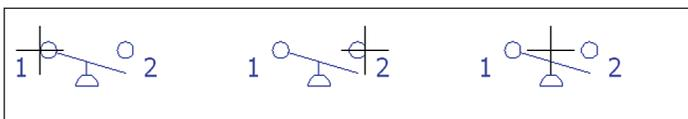

Figure 12. Create multiple insertion points for each dynamic block.
- You can create blocks with multiple insertion points (Figure 12).